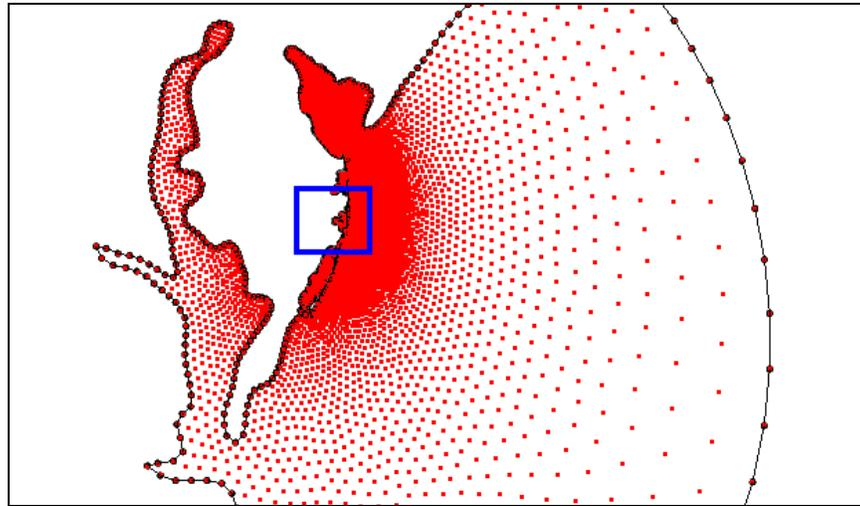

Figure 2 Zoom area indicated by the box
2. Using the **Zoom**  tool, drag a box over the area show in Figure 2.